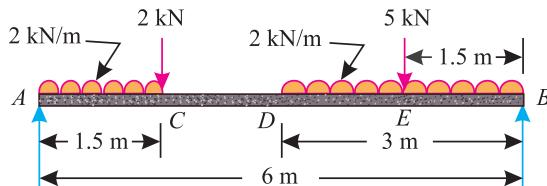

Fig. 12.14.
3. A simply supported beam  $AB$  of span 6 m is loaded as shown in Fig. 12.14.